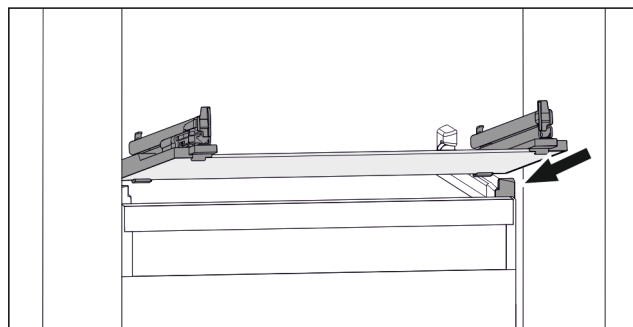

Fig. 124 Example illustration of glass shelf
- ▶ Position glass shelf at an angle behind the stoppers. (see Fig. 124)